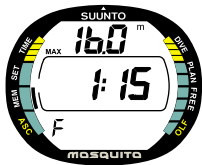

Fig. 5.10. Free dive History Memory.
3. To enter the Freedive History Memory Mode press the - or + buttons once when the History Memory is selected. The following Free dive information will be shown on the display (Fig. 5.10.):